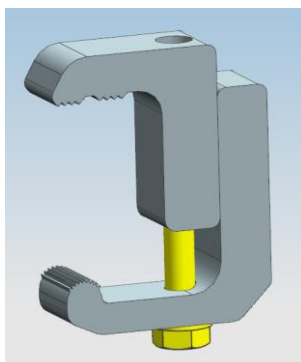

Fig.1
For the vehicles equipped with the factory utility rail, there will be (8) Bottom Brackets (fit for utility rail equipped vehicle only) and (8) Upper Brackets required (Fig.1).